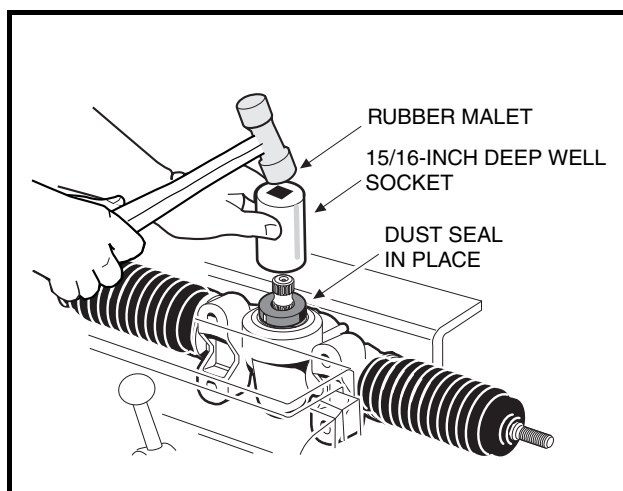

Figure 7-20 Press In Dust Seal
4. Install the snap ring (4).
5. Use a socket to apply pressure evenly and press in a new dust seal (**Figure 7-20, Page 7-11**).